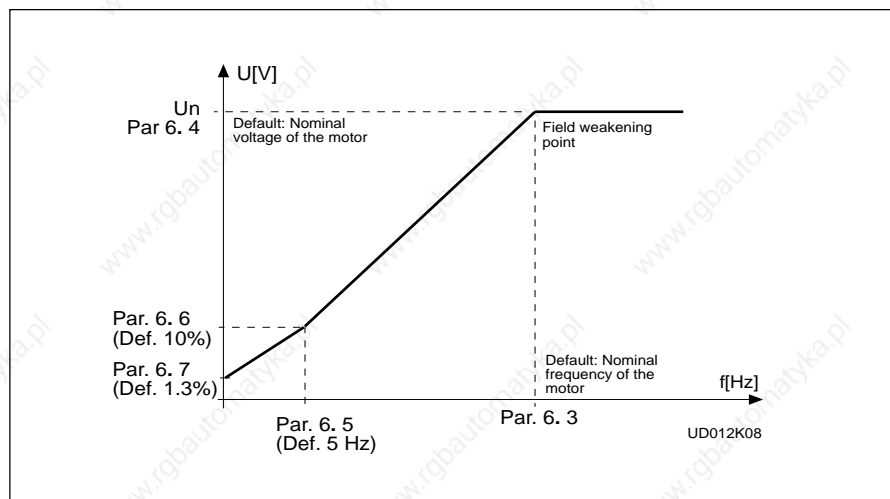

Figure 2.4-2 Programmable U/f curve.
**Programm. U/f curve** The U/f curve can be programmed with three different points. The parameters for programming are explained in the chapter 2.5.2 Programmable U/f curve can be used if the other settings do not satisfy the needs of the application. See figure 2.4-2.